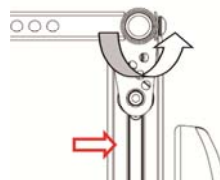

Figure 5-47
5.3.3.5.3 When adjusting the whole footplate assembly angle for the needs of the user, use the #5 Allen Key Wrench to loosen the bolts on both sides. (Figure 5-47) The adjustable angle is -5°, 0°, 5°, 10° and 15°. Ensure the footplate assembly does not interfere